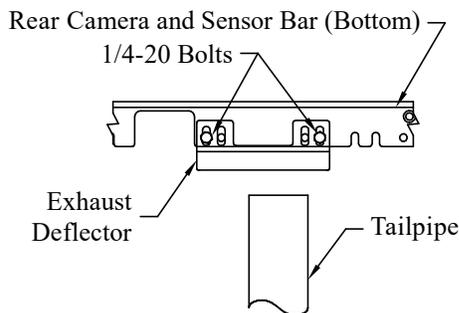

Figure 13: Exhaust deflector as seen from below.
1. **Install** the exhaust deflectors using two 1/4" Nuts and bolts per deflector (Figures 13 and 14).